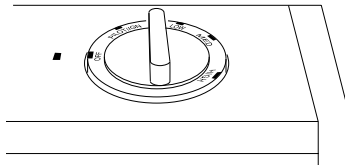

Figure 17 - Control Knob In The OFF Position
5. Press in and turn control knob counterclockwise to PILOT/IGN position. Press in control knob for five(5) seconds (see Figure 17).